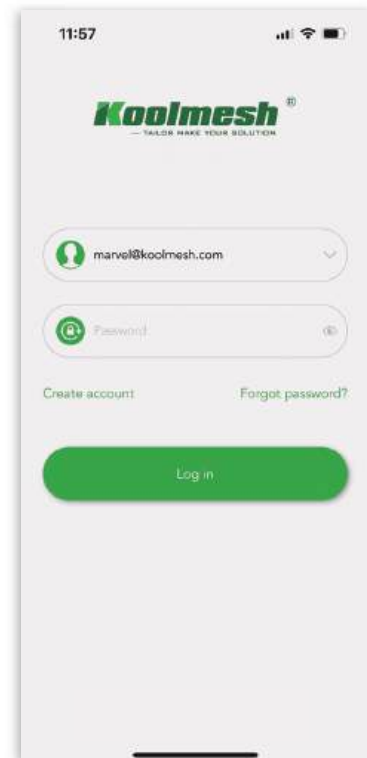

Figure 1.3 Log in
4. If users already have an account, please log in directly with the existing account. (see figure 1.3)